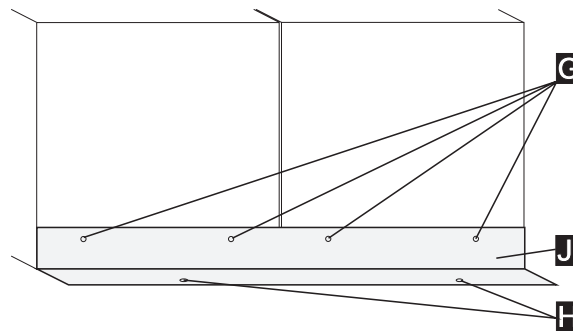

Figure 11-15. Power retention bracket (Front view).
- \_\_\_ 3. Refer to Figure 11-15, at the front of the machine using screws **G** and **H** reinstall the bracket **J**.